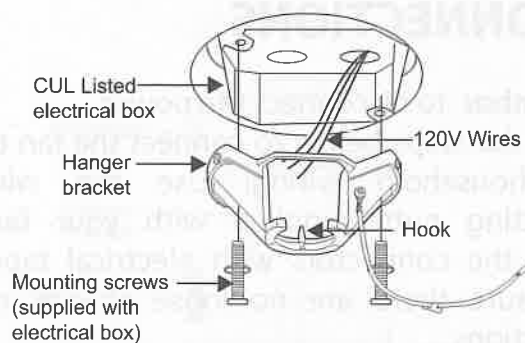

Figure 5
**Step 1.** Pass the 120-volt supply wires through the center hole in the ceiling hanger bracket as shown in Fig. 5.
**Step 2.** Secure the hanger bracket to the ceiling outlet box with the screws and washers provided with your outlet box. (Fig. 5)